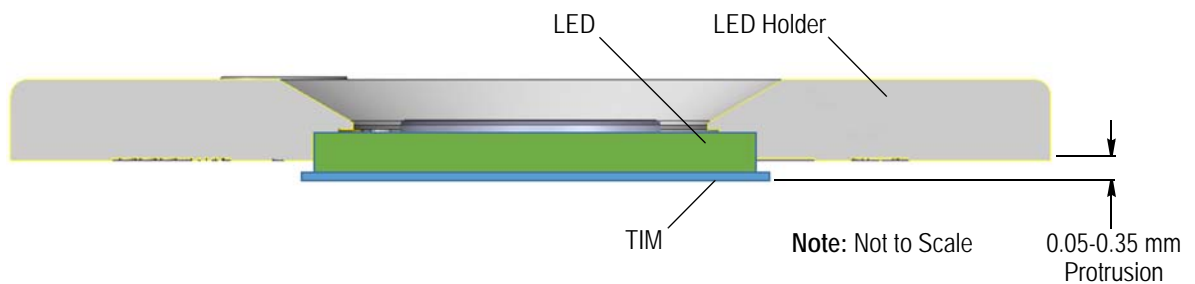

Figure 3
- Added Paragraph 3.4 and Figure 3, and modified current Paragraph 3.6
- the LED protrusion, including the TIM, must not be less than 0.05 mm and not more than 0.35 mm (refer to Figure 3)
The cooling device must be clean and flat with no crowns or peaks in the mounting area. The recommended mounting hole pattern (not to scale) is provided on the customer drawing for the LED holder and is shown in Figure 3.